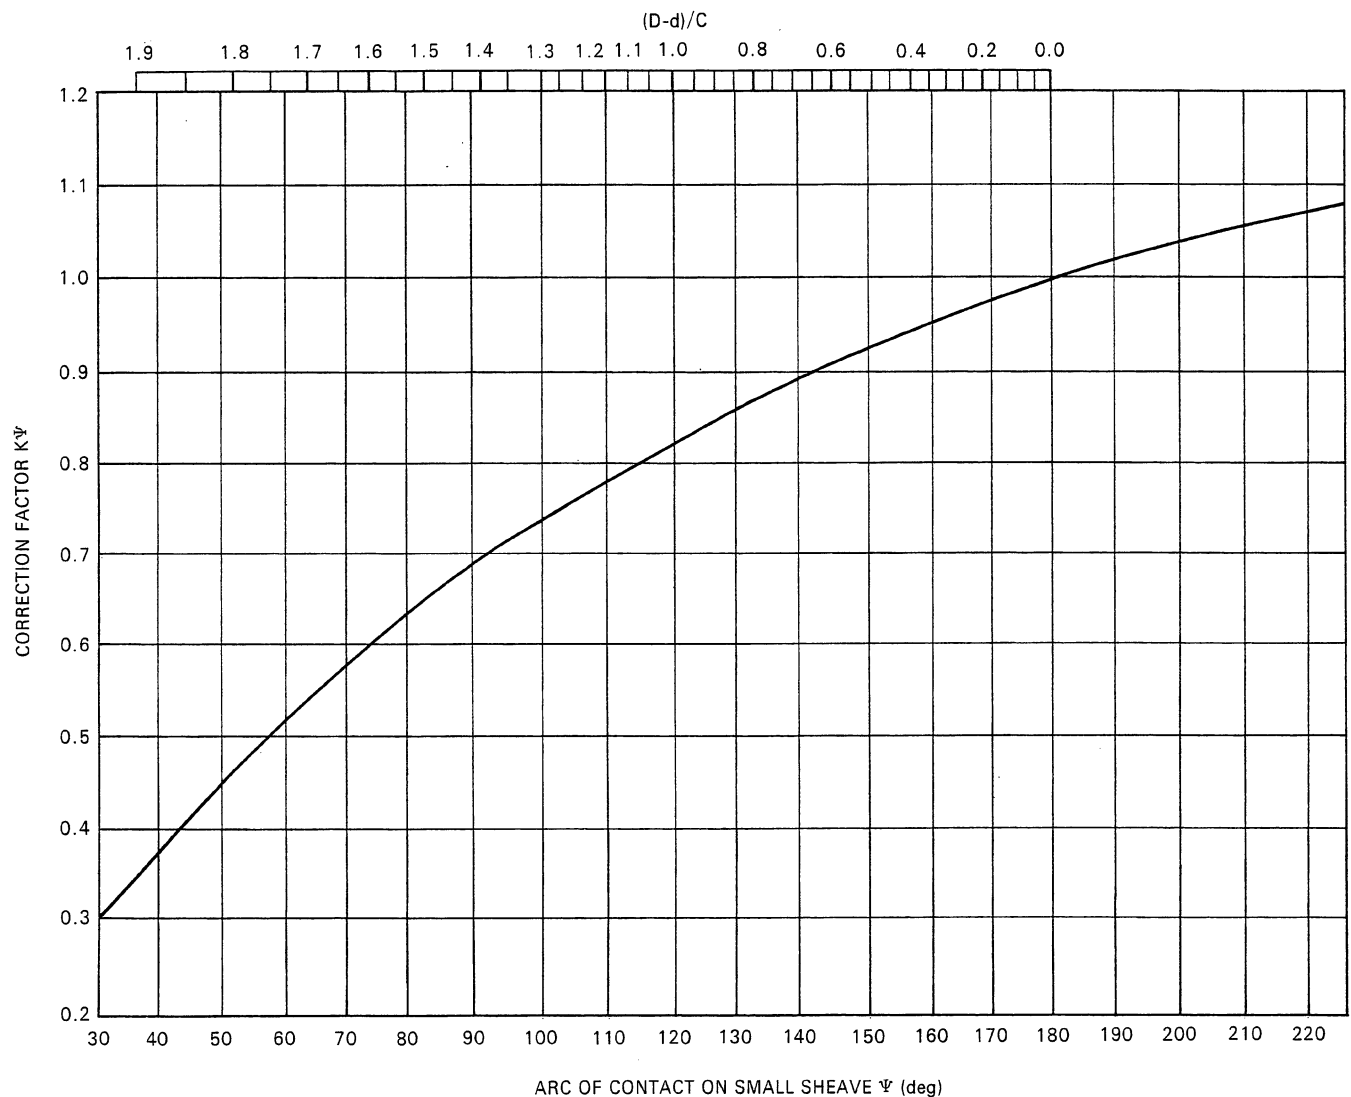

Fig. 10-9
b) Find the Arc correction factor $K \Psi$ from Fig. 10-9.